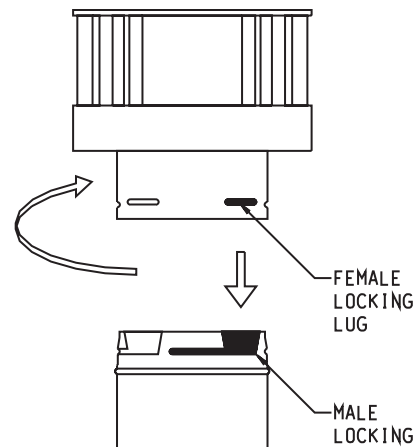
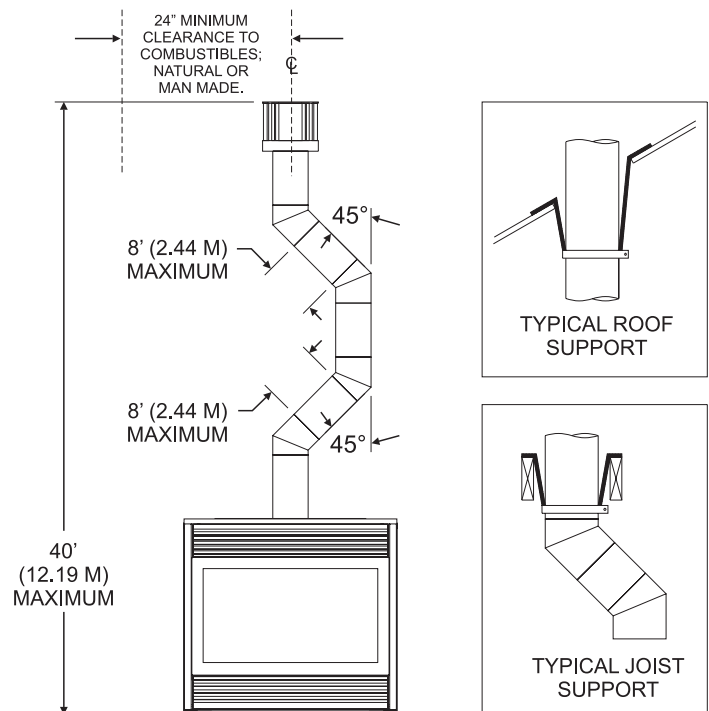

Figure 52
Figure 53
Slide the vertical vent cap over the ends of the vent pipe and secure. (See Figure 52)
Vertical Through the Roof Applications (Figure 53)
The positioning of logs is critical to safe and clean operation of this fireplace. Sooting and other problems may result if the logs are not properly and firmly positioned in the firebox. Please refer to **Figure 52** and **Figure 53** and corresponding WARNING when completing following log placement steps.
11. After all logs are properly positioned, place small "dime" size pieces of Rockwool lightly across the front burner tube ports. Place the ember material (Rockwool pieces) side by side. Do not stack more than one layer of embers across the burner ports. See Figure 53.